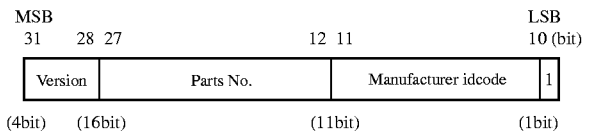

Fig 8 IDCODE register
5)IDCODE register consists as shown in figure 8.